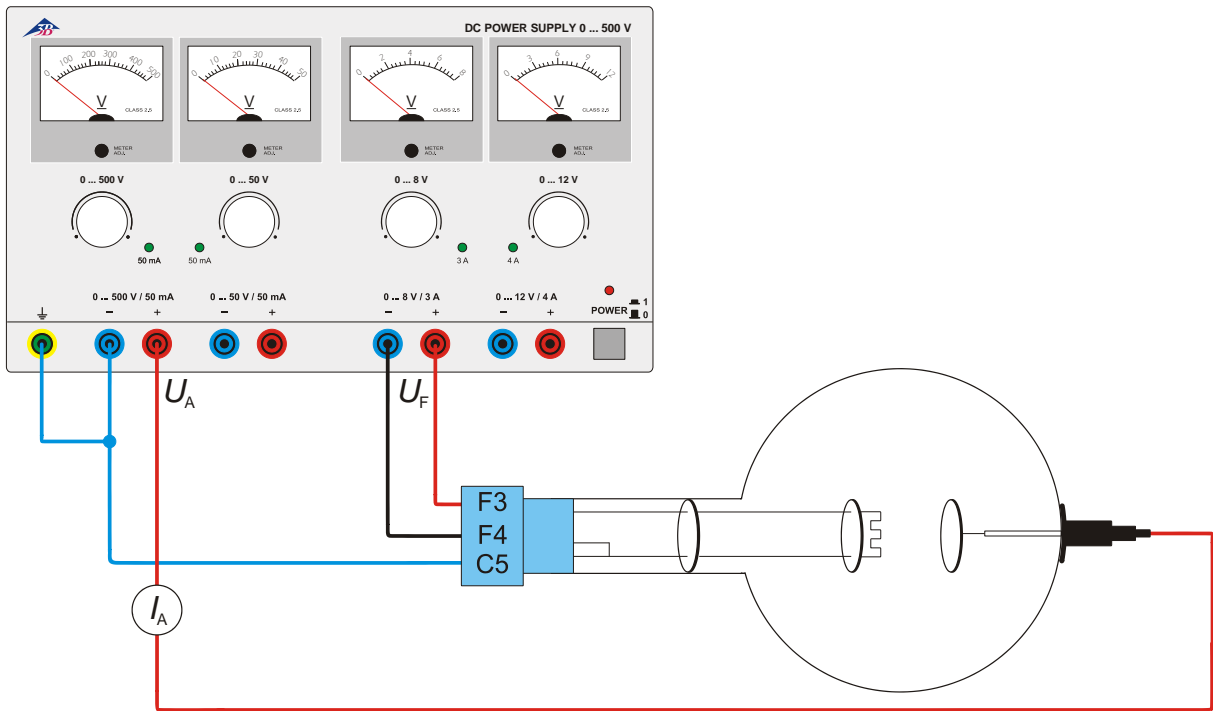

Fig. 1 Determining dependency of anode current on filament voltage and confirmation of anode current using a meter
- Set up the circuit as in Fig. 1.